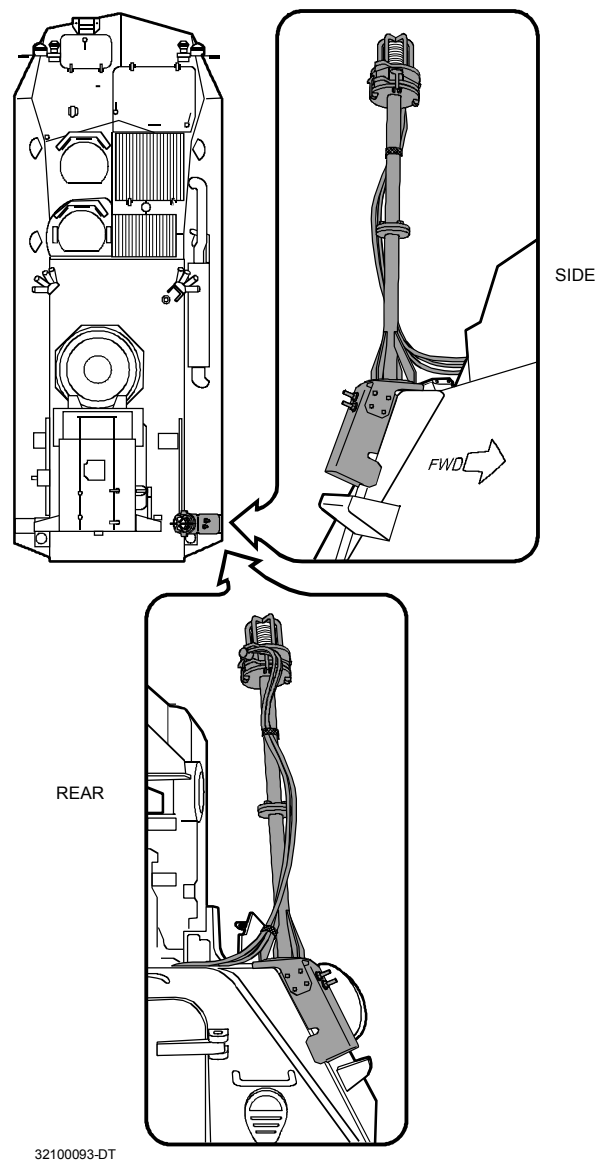

Figure 2-14. KSI Mounting.
- f. Place the mast assembly over the Right/Rear-lifting eye, and secure the adapter to the lifting eye with the U-bolt clamp. (See Figure 2-14.)